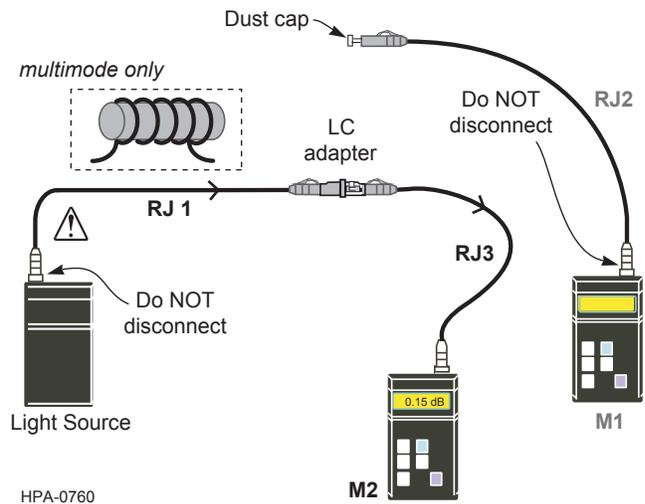

Figure 10
Step 9: Clean and install an LC to LC jumper-Reference Jumper no.3 (**RJ3**) into **M2** and the LC adapter (Figure 10).